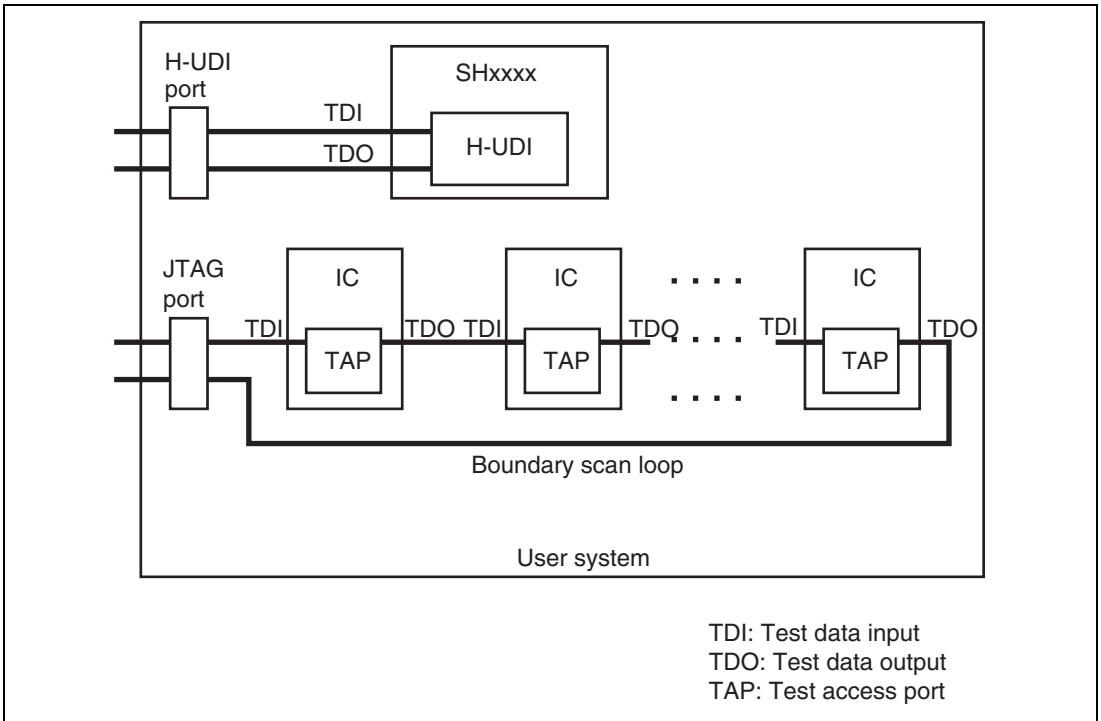

Figure 2.29 User System Example
- When developing user systems, do not connect the TDI and TDO signals of the device to the boundary scan loop, or separate them by using a switch (figure 2.29).